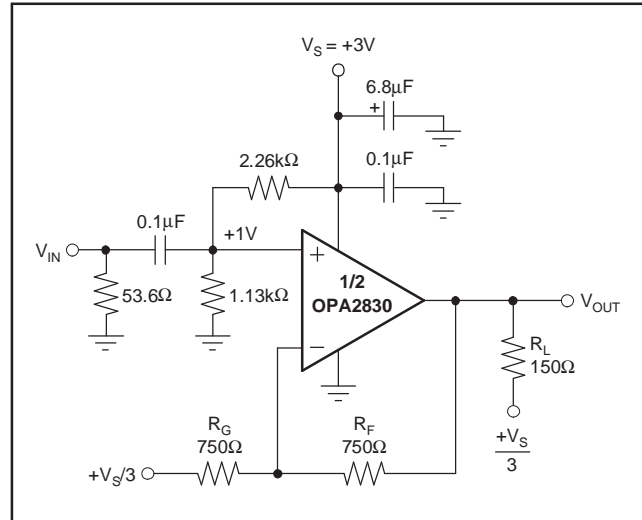
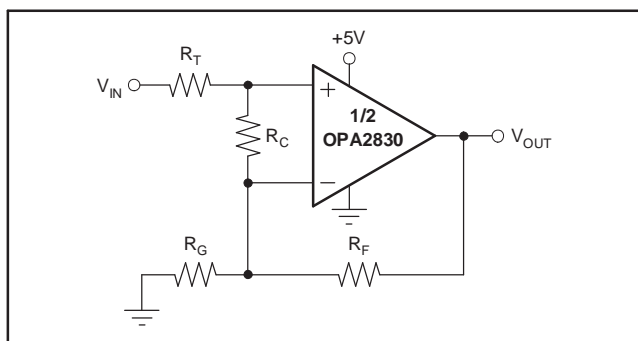

Figure 71. AC-Coupled, G = +2, +3V Single-Supply Specification and Test Circuit
Figure 77. Compensated Noninverting Amplifier
At $T_A = +25^\circ C$, $G = +2V/V$, and $R_L = 150\Omega$ to $V_S/3$, unless otherwise noted (see Figure 71).
Figure 71 shows the AC-coupled, gain of +2 configuration used for the +3V Specifications and Typical Characteristic Curves. Voltage swings reported in the Electrical Characteristics are taken directly at the input and output pins. For the circuit of Figure 71, the total effective load on the output at
Figure 77 shows a noninverting amplifier that reduces peaking at low gains. The resistor R_C compensates the OPA2830 to have higher Noise Gain (NG), which reduces the AC response peaking (typically 4dB at $G = +1$ without R_C) without changing the DC gain. V_{IN} needs to be a low impedance source, such as an op amp.
Frequency response in a gain of +2 may be modified to achieve exceptional flatness simply by increasing the noise gain to 3. One way to do this, without affecting the +2 signal gain, is to add a 2.55k Ω resistor across the two inputs, as shown in Figure 77. A similar technique may be used to reduce peaking in unity-gain (voltage follower) applications. For example, by using a 750 Ω feedback resistor along with a 750 Ω resistor across the two op amp inputs, the voltage follower response will be similar to the gain of +2 response of Figure 71. Further reducing the value of the resistor across the op amp inputs will further dampen the frequency response due to increased noise gain. The OPA2830 exhibits minimal bandwidth reduction going to single-supply (+5V) operation as compared with $\pm 5V$. This minimal reduction is because the internal bias control circuitry retains nearly constant quiescent current as the total supply voltage between the supply pins is changed.
The criterion for setting this R_S resistor is a maximum bandwidth, flat frequency response at the load. For a gain of +2, the frequency response at the output pin is already slightly peaked without the capacitive load, requiring relatively high values of R_S to flatten the response at the load. Increasing the noise gain will also reduce the peaking (see Figure 77).